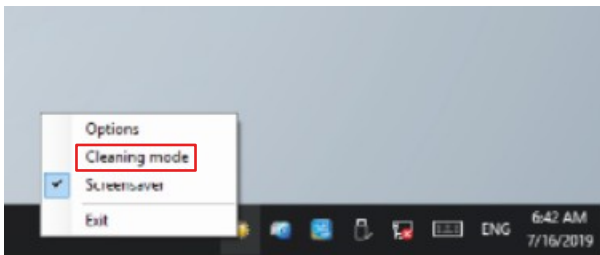

Fig. 25: CP29xx_Select "Cleaning Mode"
3. Select the "Cleaning Mode" (see Fig. 25).